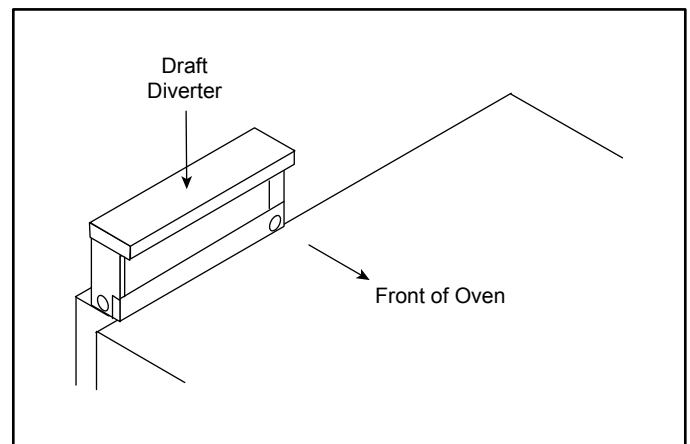

Figure 7
1. Place the diverter over the flue connector with the open area facing the front of the oven. See Figure 7.